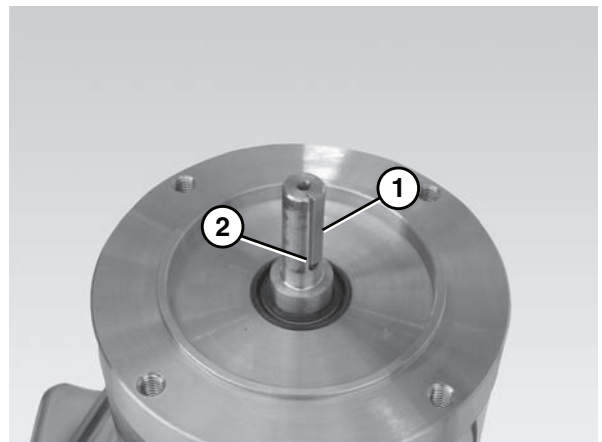

Figure 37
7. Insert the gearmotor output shaft key (Figure 37, item 1) into the gearmotor output shaft keyway (Figure 37, item 2).
Ensure the gearmotor output shaft key (Figure 37, item 1) is situated properly before attaching the motor to the gear reducer.